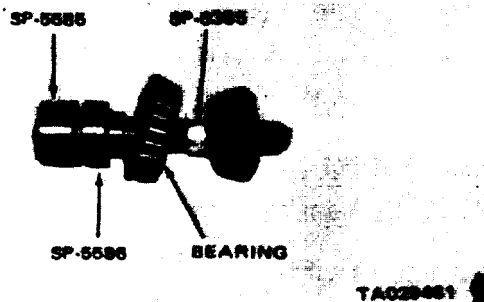

Figure 20-13. Installing the Front Bearing Cone.
- (1) Position the drive pinion cups into the axle housing.
- (2) Install adapter SP-5586 on shaft SP-5585. Then install the front bearing cone (figure 20-13).